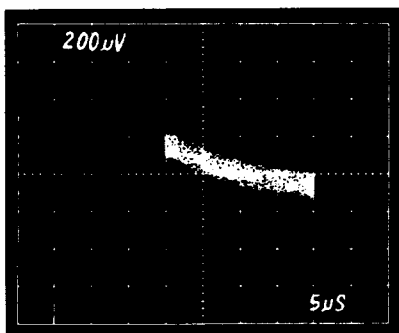

Figure 12. Dielectric Absorption
During T_B , the CONTROL line is high, the AD1154 is in the sample mode and the analog input charges the hold capacitor to +10 V. During T_C the analog input to the SHA is switched to ground, effectively shorting the hold capacitor for the remainder of the sample period. During T_A , the SHA is switched into hold mode and the hold capacitor is open circuited. The dielectric rebound can be observed on the oscilloscope during T_A . Refer to Figure 12.
3. Pick $(R_1||R_2) \cdot C_1$ to be equal to the approximate time constant (T_{const}) of the dielectric rebound on the oscilloscope (see photo in Figure 12).